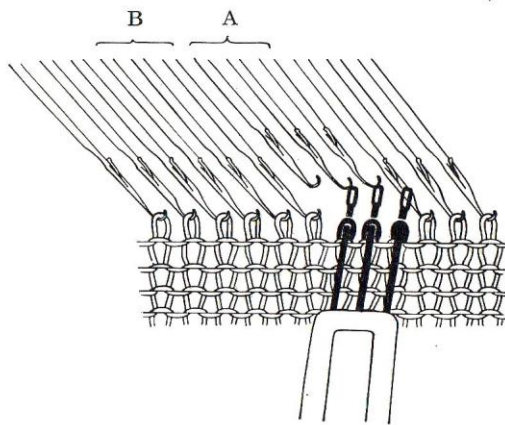

Fig 27
- 1) Using a pair of three eye transfer tools, pick up three stitches with one transfer tool, pick up the adjacent three stitches with the other tool. (See Fig. 27, 28)